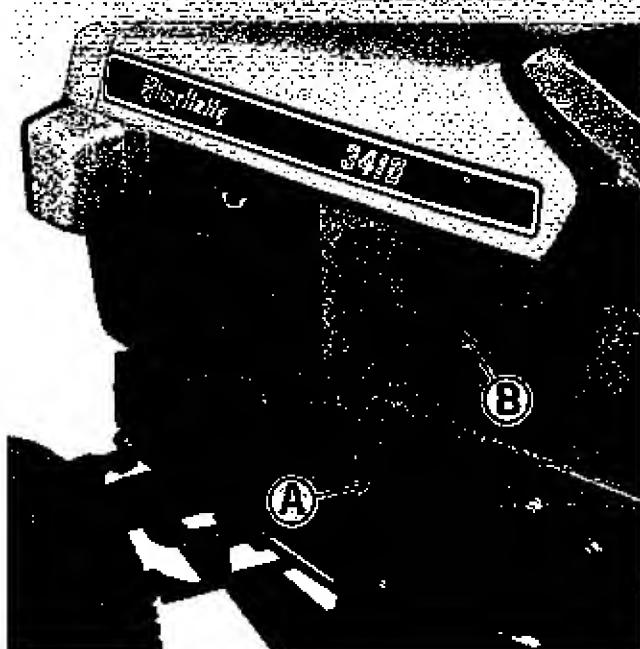

Figure 7. Left side of tractor.
See figure 7. The tractor hood is hinged at the front by two spring loaded bolts. It may be easily opened by releasing the two rubber straps (B) located on either side of the hood. Pull down and out on the straps to release them. See figure 8. Lift upward on the back of the hood to raise it as shown. The hood raised in this position provides easy access to the generator, battery, fuel tank, engine, etc.